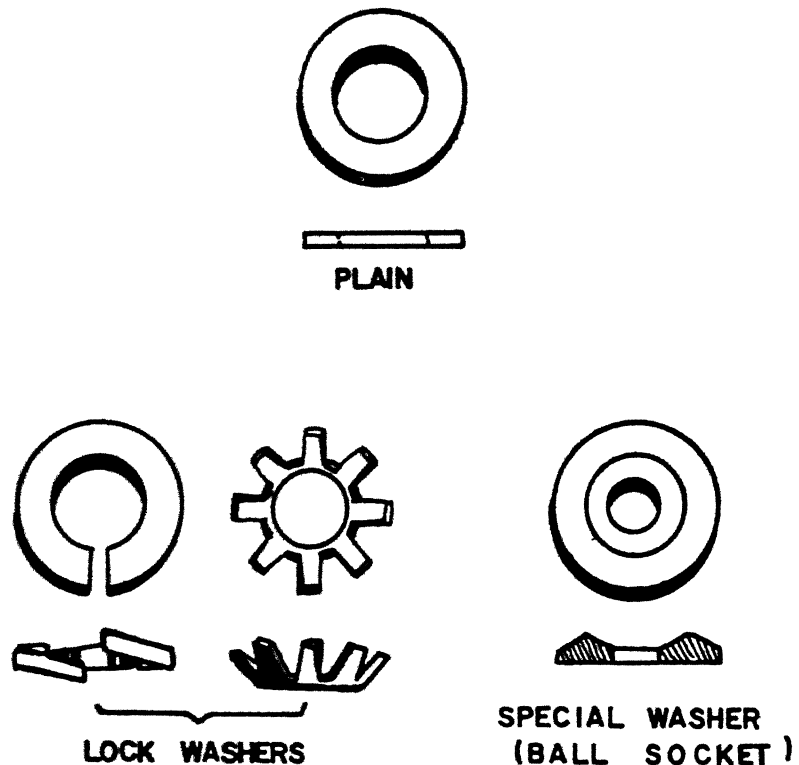

FIGURE 10-11.—Washers used in aircraft structures.
- (1) e.
- (2) b.
- (3) a.
- (4) c.
- (5) d.
29. The types of washers used in aircraft structures are plain washers, lockwashers, and special washers (figure 10-11).